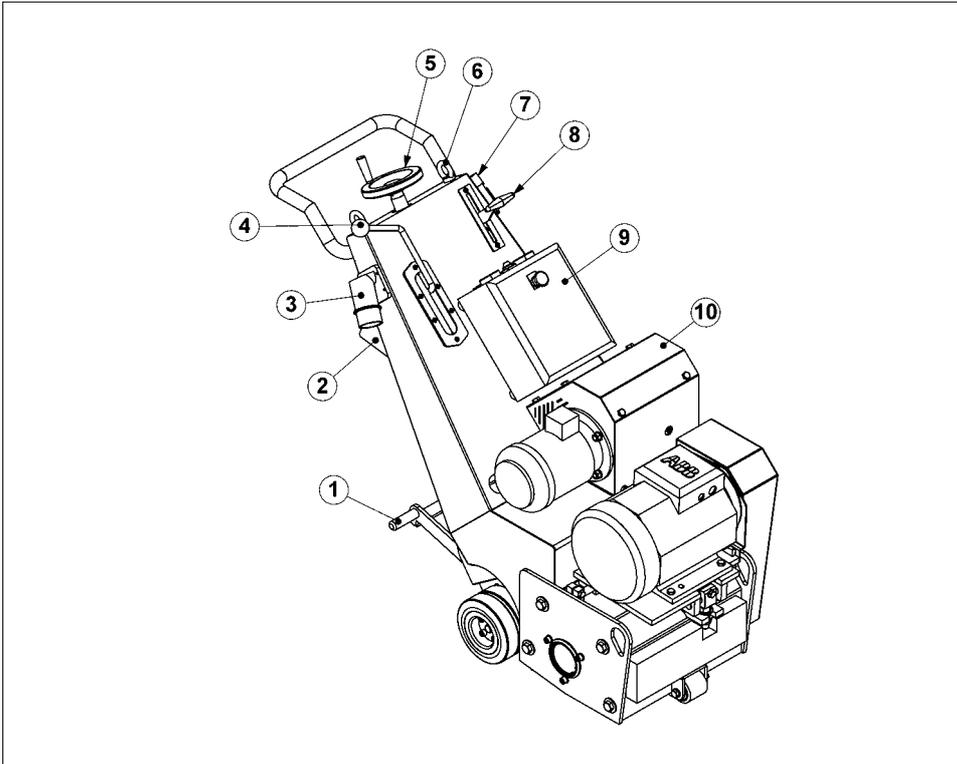

Fig. 3.1
Pressing the " Scarify motor ON" push button, switches the scarify motor. Before switching on the scarify motor, the treadle (see pos. 1 figure 3.1) of the drive system must be in downwards position.
The phase inverter in the socket (see Fig.3.1, pos.3) serves to adjust the phase when the control light "Phase incorrect" lights up
Before switching on the machine the scarifier must be lifted with the quick lift lever (pos. 4 Fig.3.1) in order to prevent a start or rather a run out of the motor under full load.
The **Blastrac** scarifier BMP-335EHY has a quick lift (Fig. 3.1 Item 4). The scarifier can be lift with the quick lift lever without changing the working depth to transport or to remove it. Before switching on the machine, the scarifier must be lifted with quick lift in order to prevent a start or rather a run out of the motor under full load.
The working depth will be adjusted through turning the adjust wheel or handwheel (Fig. 3.1, Item.5), so that every tool may grip (scrape) correctly and you will reach the requested quality of finish. The progressively depth adjustment enables the flaires to impact on the surface being treated only at the required and necessary depth. The scarifying depth must be adjust, considering the surface to be treated, so that the flaires will be unhindered thrown up through the centrifugal force and they can free turn over lateral axle. When the deep adjustment is correctly selected, the scarifier will run quiet and constant. Oval worn flaires as well as broken drum axle indicating a too "high" scarifying deth adjustment. Do not set the machine so the flails causing high vibration , this indicates not enough clearance between flail and axle.
The drive unit control lever (Fig. 3.1, Item.8) steers the drive unit device. The function of the drive unit control lever begins after adjusting the working depth of the machine with the quick lift. You should pay attention that the drive unit control lever is locked in neutral position before manipulating the quick lift.
It is possible to transport the machine without electrical power by pushing up the treadle (pos. 1, fig 3.1). The drive wheels are declutched of the drive motors now. Be sure that the floor is flat, because the machine is uncontrolled now! **It is very dangerous to drive the machine on a grade or ramp when the treadle is in upwards position!**